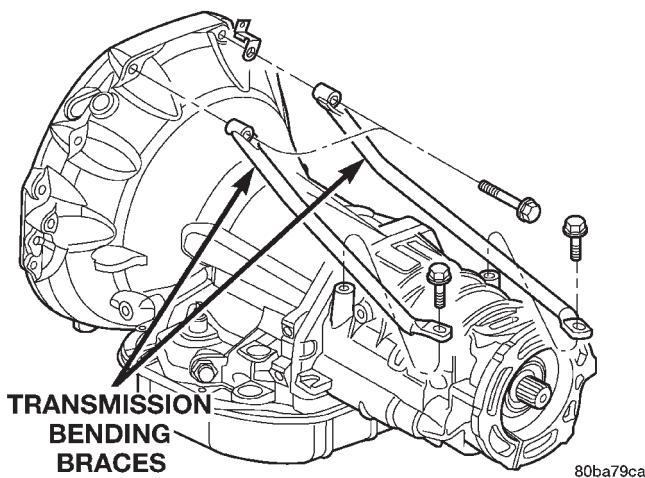

Fig. 21 Remove Upper Transmission Bending Braces
(27) Remove bolts holding the upper transmission bending braces to the torque converter housing and the overdrive unit (Fig. 21).
(28) Remove all remaining converter housing bolts.
(29) Carefully work transmission and torque converter assembly rearward off engine block dowels.
(30) Hold torque converter in place during transmission removal.
(31) Lower transmission and remove assembly from under the vehicle.
(32) To remove torque converter, carefully slide torque converter out of the transmission.